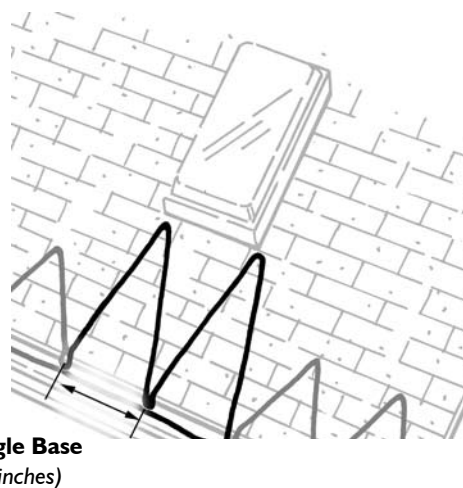

Figure 5. Triangle pattern near skylight
- Pattern for skylights:** Problem skylight areas are also treated with the “triangle pattern” approach. However, the height of the triangles may need to be greater than those along the roofline. Increase the triangle height so that it extends to one shingle row (5½ inches) below the skylight. The triangle base is maintained at 15 inches (See Figure 5).